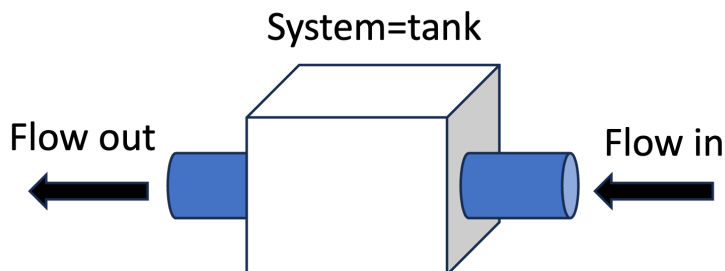

Fig. 7: Open tank
- **Open:** mass can exchange between the system and the surroundings, as in Fig. 7